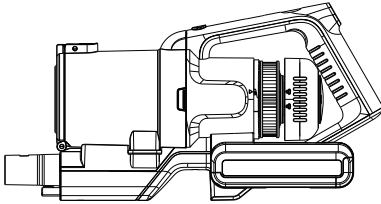
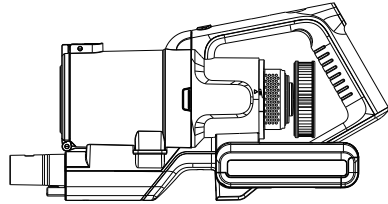

Fig. 17
Fig. 18
7. To clean or replace the post-motor filter, turn the cover anticlockwise and lift off the cover (fig. 17), remove the filter (Fig.18), wash and dry the filter in accordance with step 4.